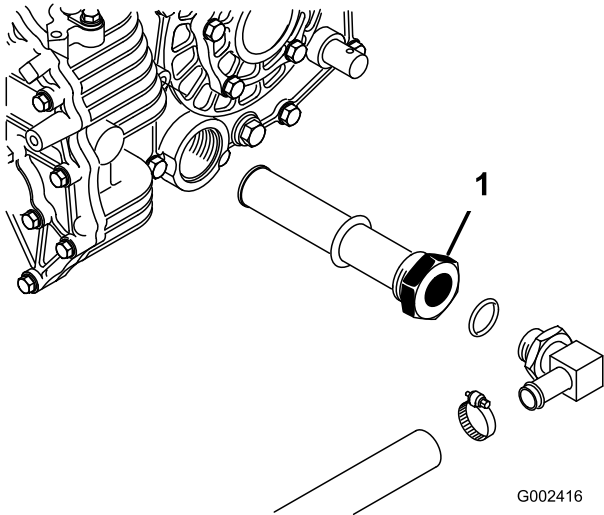

Figure 64
5. Note the orientation of the hydraulic hose and 90° fitting connected to the strainer on the side of the reservoir (Figure 64).